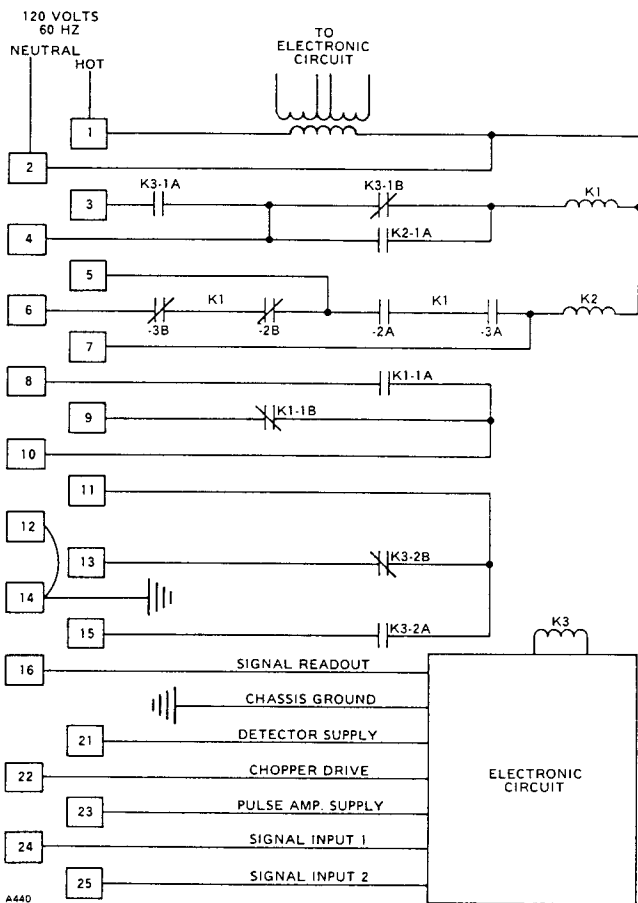

Figure 7—Internal Connections, 9001-01 Controller
1. The electrical connections of the 9001 Flame Safeguard Controller are shown in Figure 7.